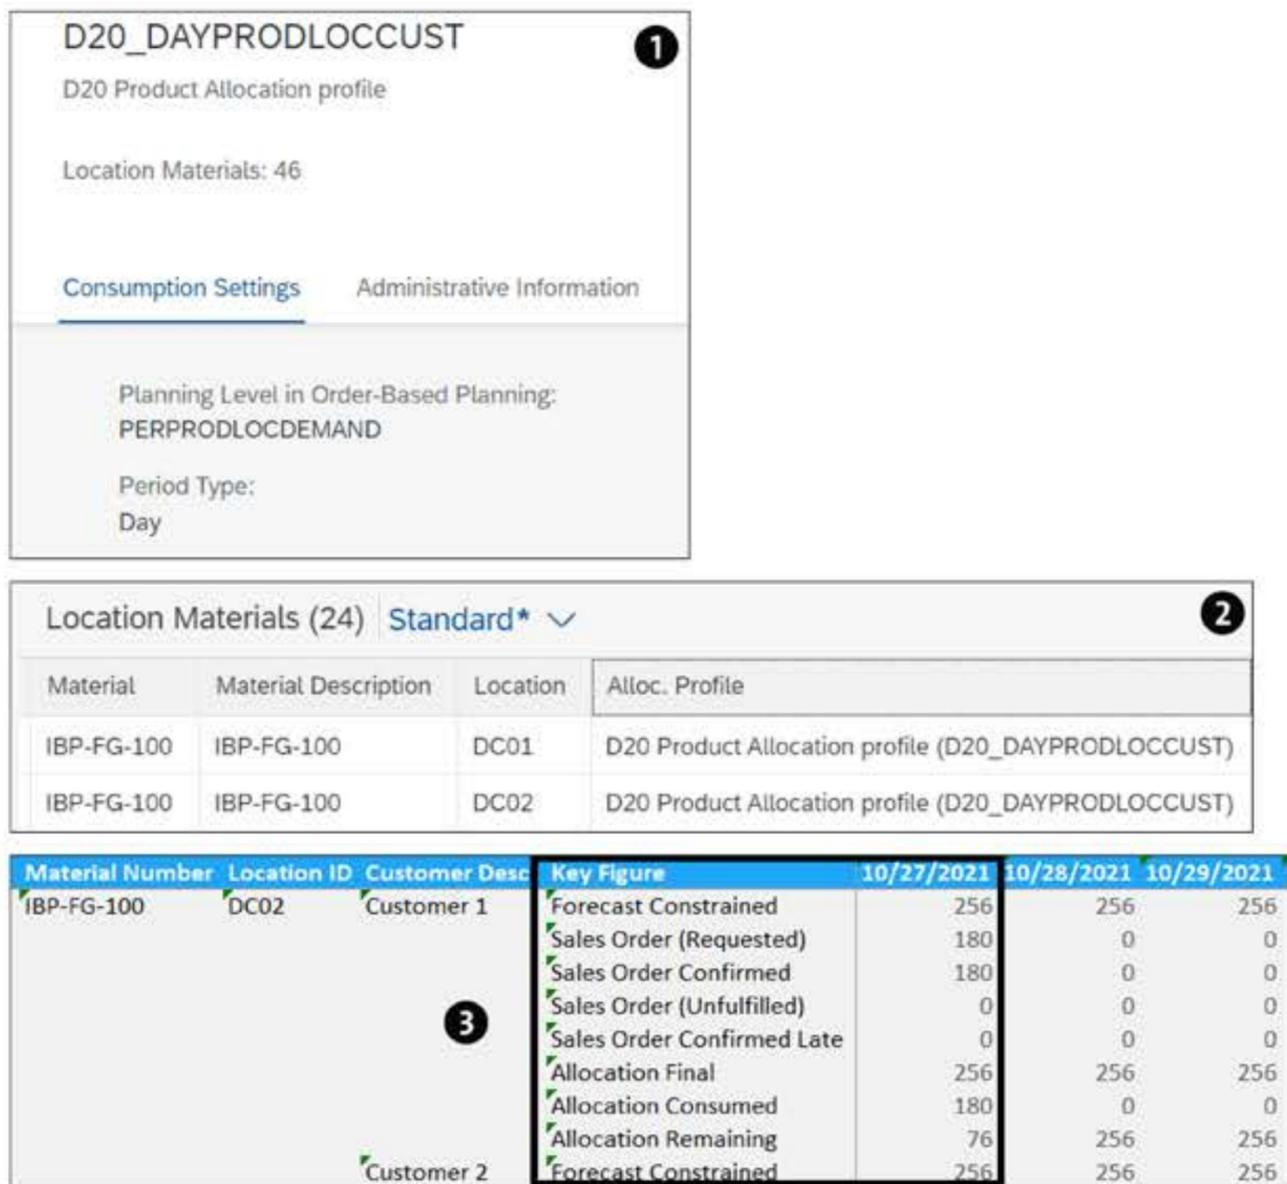

Figure 2.15 Product Allocation in Order-Based Planning
In Figure 2.15, ❶ shows the product allocation profile, in which the planning level and period type have been selected.